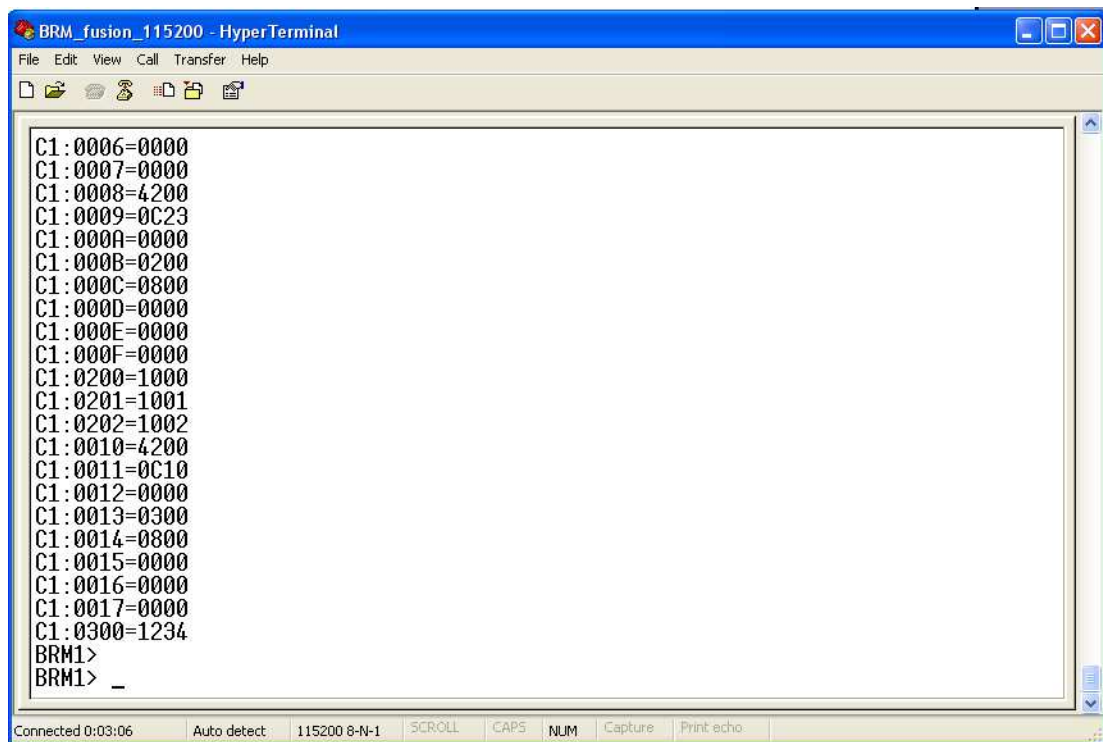

**Figure 2-6 • HyperTerminal Window in Command Mode**
3. Press ESC to enter command mode (Figure 2-6).